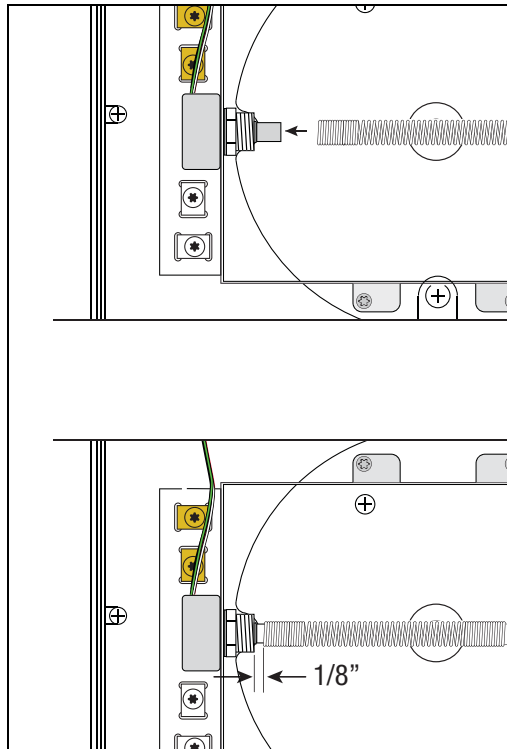

Figure 17. Pushing Encoder Spring Onto Pulse Encoder Shaft
15. Carefully bend the encoder spring over to the encoder shaft and push the open spring end onto the shaft. Work the spring onto the shaft until it is about 1/8" from the pulse encoder (Figure 17).